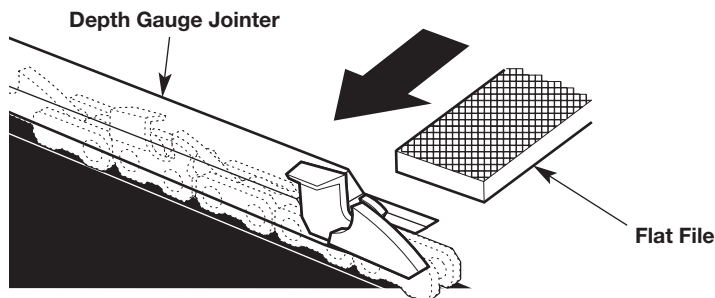

Fig. 36
3. Use a depth gauge tool (not included) to measure the depth gauge clearance (Fig. 36) of each cutter. The depth gauge clearance must be maintained at 1/32 inch (0.6 mm). The depth gauge clearance determines the depth at which the cutter enters the wood during operation and the size of the wood chips produced. Too much clearance increases the chance of kickback. Too little clearance decreases the size of the wood chips produced, thus decreasing the ability to cut.
- Use a 1/32 inch (0.6 mm) depth gauge jointer and a flat file (tools not included) to lower the depth gauge to the correct clearance (Fig. 36).